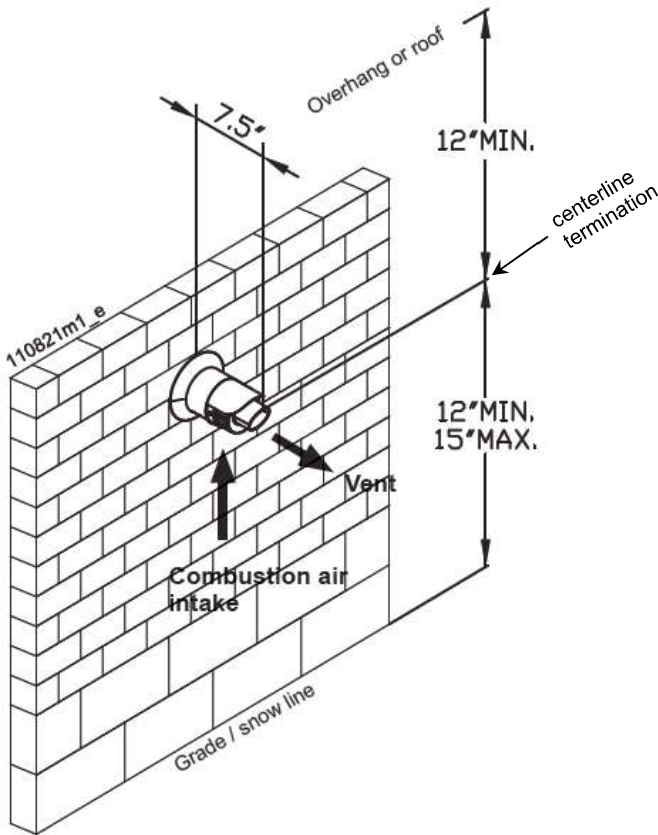

Figure 10.21
Description and usage: concentric combustion air and exhaust vent pipe termination. Both combustion air and exhaust vent pipes must attach to the termination kit. The termination kit must terminate outside the structure and must be installed as shown below in Figure 10.21. The required combustion vent pipe materials are listed in Table 10.4 of this manual.
NOTICE	Ensure termination location clearance dimensions are as shown in Figure 10.21 or 10.22.
2. Prepare the vent termination and the air intake termination elbow (Figure 10.21) by inserting bird screens.
4. The air intake piping must terminate in a down-turned 180° direction utilizing two elbows see figure 10.21
5. The exhaust piping must terminate in a vertical coupling as shown in Figure 10.21. The top of the coupling must be at least 1 foot above the air intake. When the vent termination uses a rain cap, maintain at least 36" (914 mm) above the air inlet. The air intake pipe and exhaust vent pipe can be located in any desired position on the roof, provided that the exhaust vent termination is at least 1 foot above the air intake.